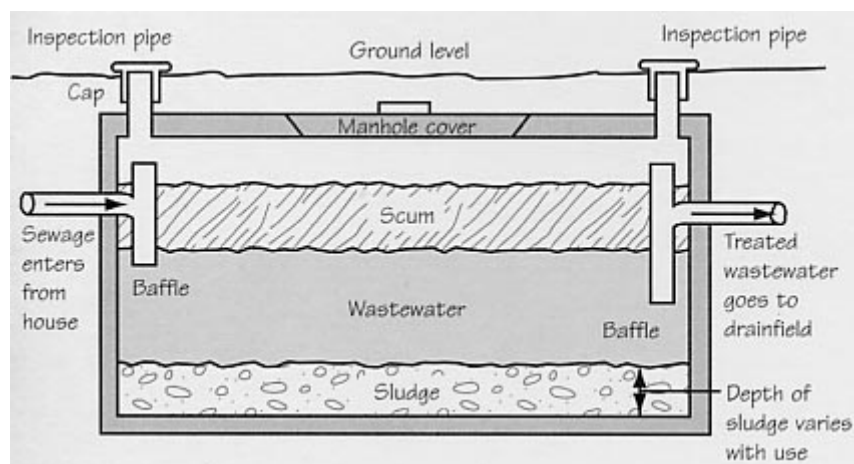

Figure 1. Illustration courtesy of the Maryland Department of the Environment.
**Septic Tank** (Figure 1): Wastewater sewage flows from the house to the septic tank. The tank is designed to retain wastewater and allow heavy solids to settle to the bottom. These solids are partially decomposed by bacteria to form sludge. Grease and light particles float, forming a layer of scum on top of the wastewater. Baffles are installed at the inlet and outlet of the tank to slow the water movement and prevent the scum and solids from escaping.